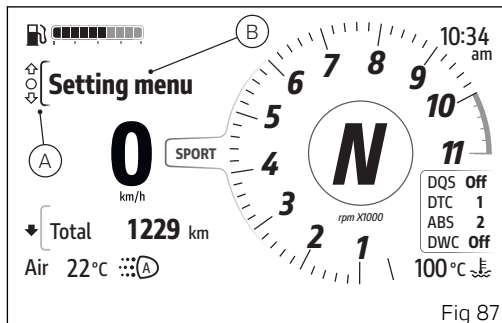

Fig 87
- Select the Interactive Menu (A, Fig 87) by pressing and holding button (1) pressed for a long time.
- Use buttons (1) and (2) to select item "Setting menu" (B, Fig 87) and press the ENTER button (3).